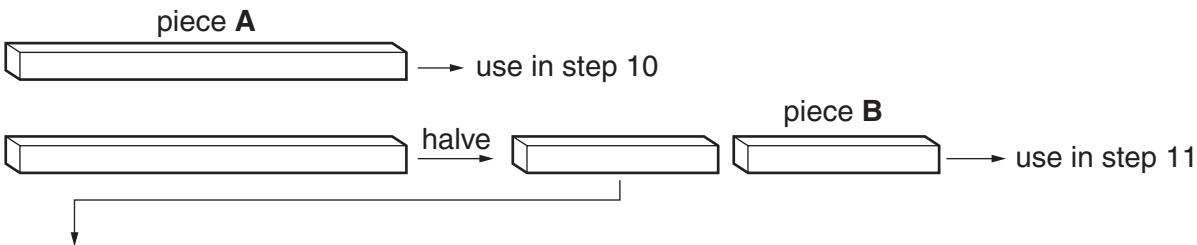

Fig. 1.1
- (i) Complete Fig. 1.1 to show how you will cut further pieces which reduce the length by half between each piece of plant tissue. *Fig. 1.1 is not drawn to scale.*